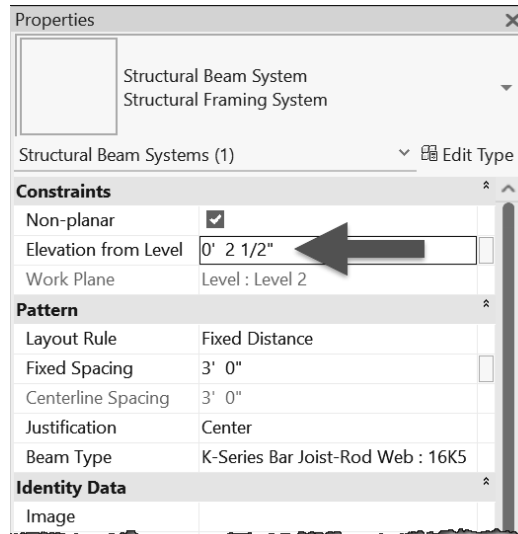

FIGURE 8-4.8 Instance properties for Beam System
33. Check **Non-planar**, set the *Elevation from Level* to **2 1/2"**, and click **Apply** (Figure 8-4.8).
- f. See Figure 8-4.8.